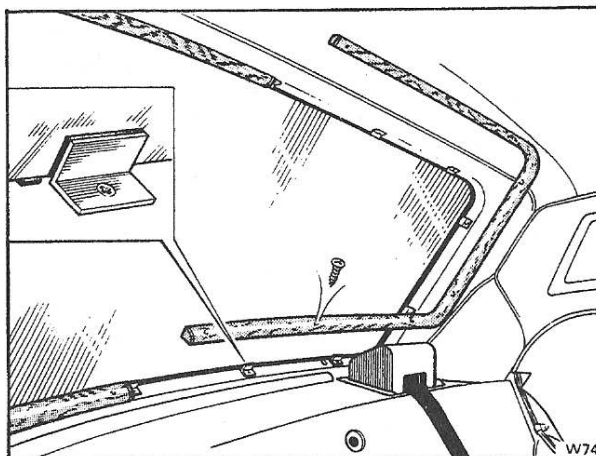

Fig. S151 Rear window interior trim (Silver Wraith II)
10. Remove the self-tapping screws and cup washers securing both halves of the polished wood finisher around the window aperture; remove the finisher (see Fig. S151).
- Remove the self-tapping screws securing the angled brackets around the window aperture; remove the brackets (see Fig. S151).
Ensure that each angled bracket is fitted into the position from which it was removed and that each bracket is complete with its rubber buffer pad fitted adjacent to the glass (see Fig. S151, inset).